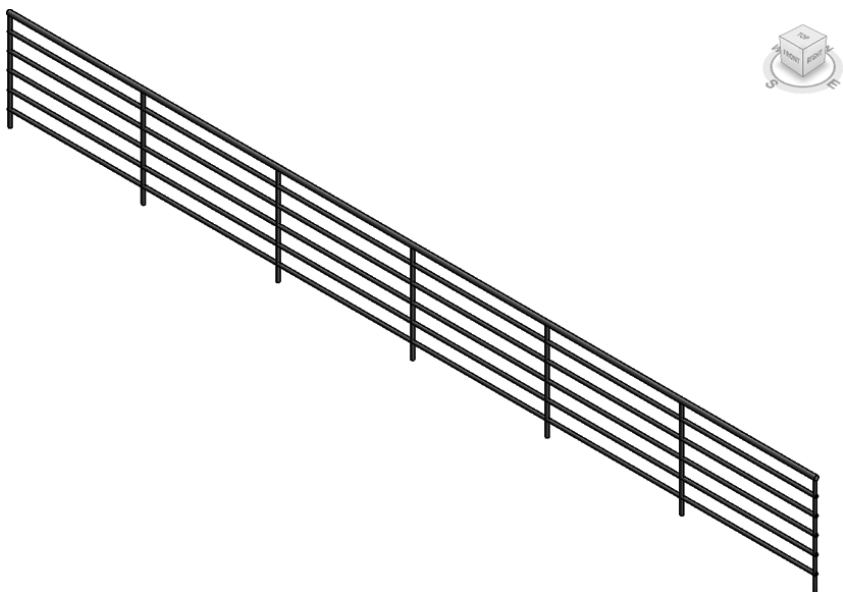

FIGURE 4.1 The default railing: Railing Handrail – Rectangular
4. Click the green check in the Mode panel to finish the sketch and create the railing. This is the default rail in Revit Architecture (Figure 4.1).